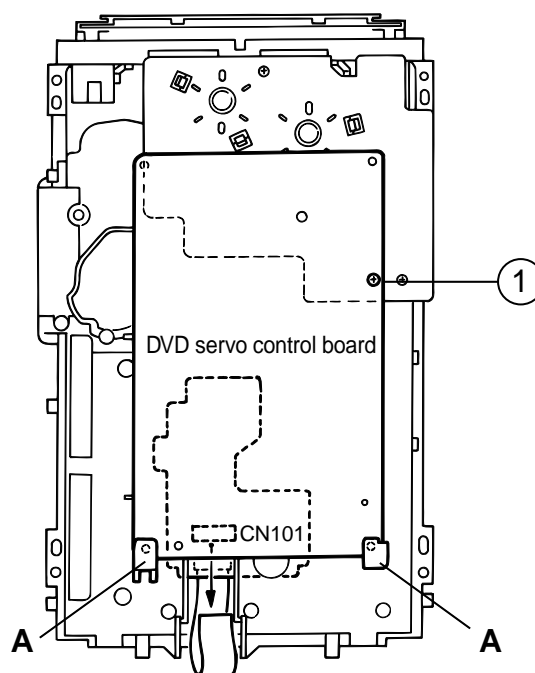

Fig.1
■ Removing the DVD Servo control board (See Fig.1)